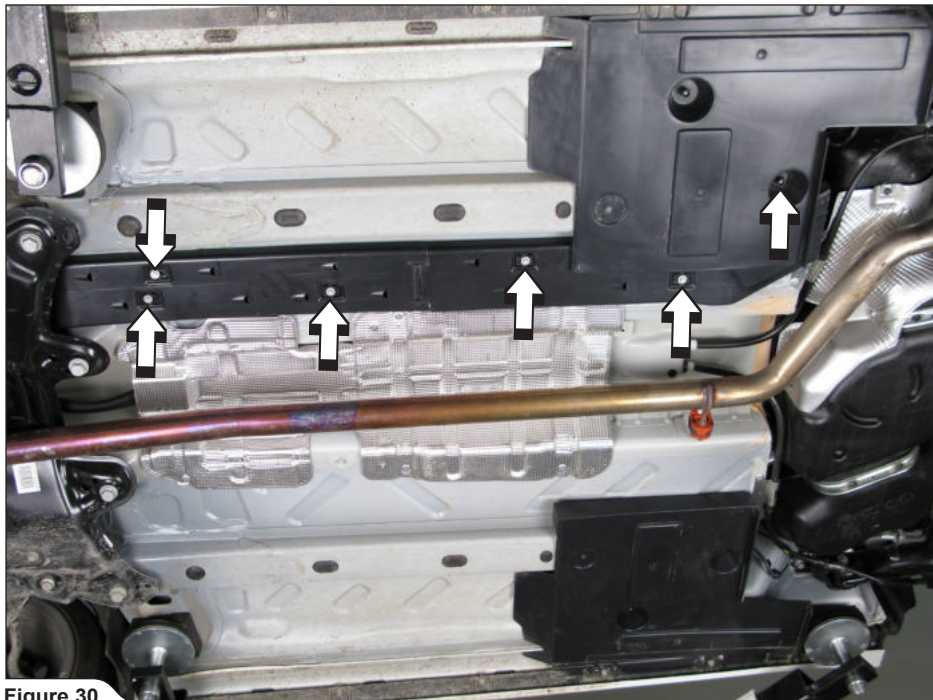

Figure 30
25. **For optional wireless kit only:** unscrew the marked bolts and nut. Remove the installations protection off the vehicle (**Figure 30**).